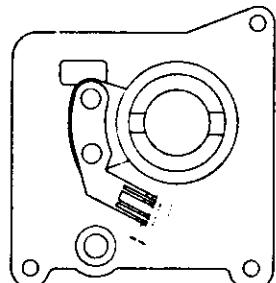

Fig. 46
- (B) Shutter dial baseplate assy (Fig. 46).